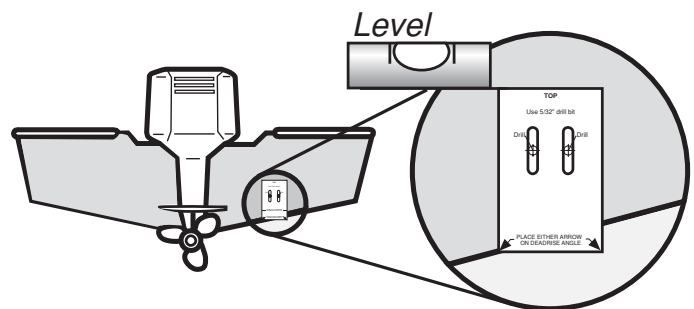

Figure 3
2. Hold the template on the transom of the boat in the location where the transducer will be installed. Align the template vertically with the inside arrow of the template on the deadrise where the bottom of the hull meets the transom wall. (Figure 3)